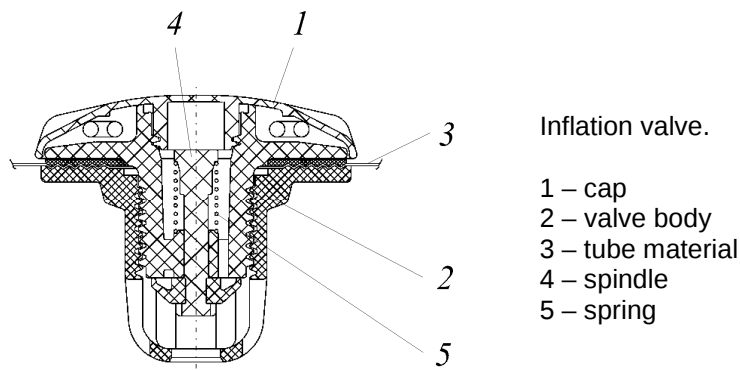

Fig.4
The buoyancy tube is made of HYPALON (Du Pont registered trademark) coated fabric or PVC coated fabric. The buoyancy tube of the boat has of five independent airtight compartments. Each compartment has an inflation valve. You can see the valve design on the Fig.4.
Before inflation it's necessary to set all valves in operating condition. For it open the valve cap (1) (Fig.4), press spindle (4) (Fig.4) with your finger and rotate it clockwise until the spindle will be fixed in upper position.
**Step 5.** Fill the two rear compartments to a nominal pressure of 0.2 bar (2.9 psi). Check the air pressure in the front compartment. The pressure should be 0.2 bar (2.9 psi). Inflate / deflate if needed. After completing the filling, close the Inflation valves with caps (1) (Fig. 4). To deflate tube compartment, open the valve cap, press down on spindle (4) (Fig. 4) with your finger and turn it counterclockwise until the spindle locks in the down position.